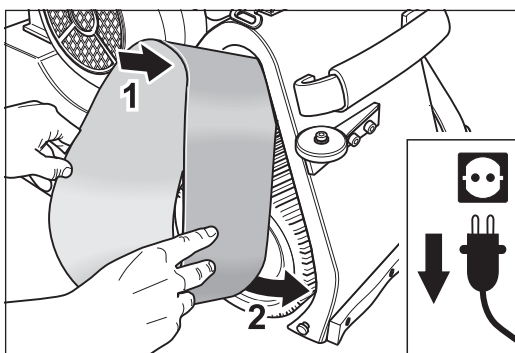
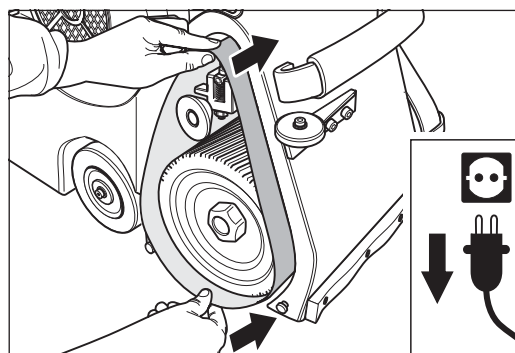

Fig. 15 Position the sanding belt on the tensioning roller of the drive unit.
Fig. 16 Push the sanding belt far enough over the sanding drum and tensioning roller so that the sanding drum is fully covered by the sanding belt.
- 10 Position the sanding belt on the tensioning roller of the drive unit (fig. 15) and push it over the tensioning roller and the sanding drum (fig. 16).